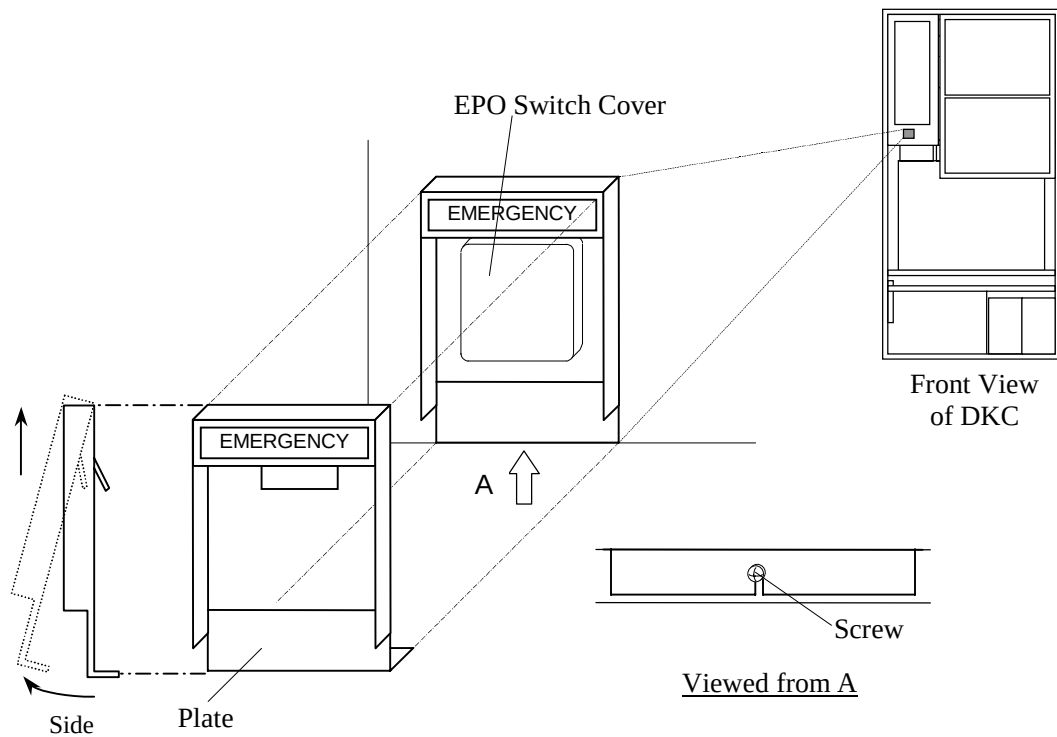

Fig. 4.8-1 Removal of Plate
- j. Attach the plate and fasten the screw. Refer to Fig. 4.8-1.